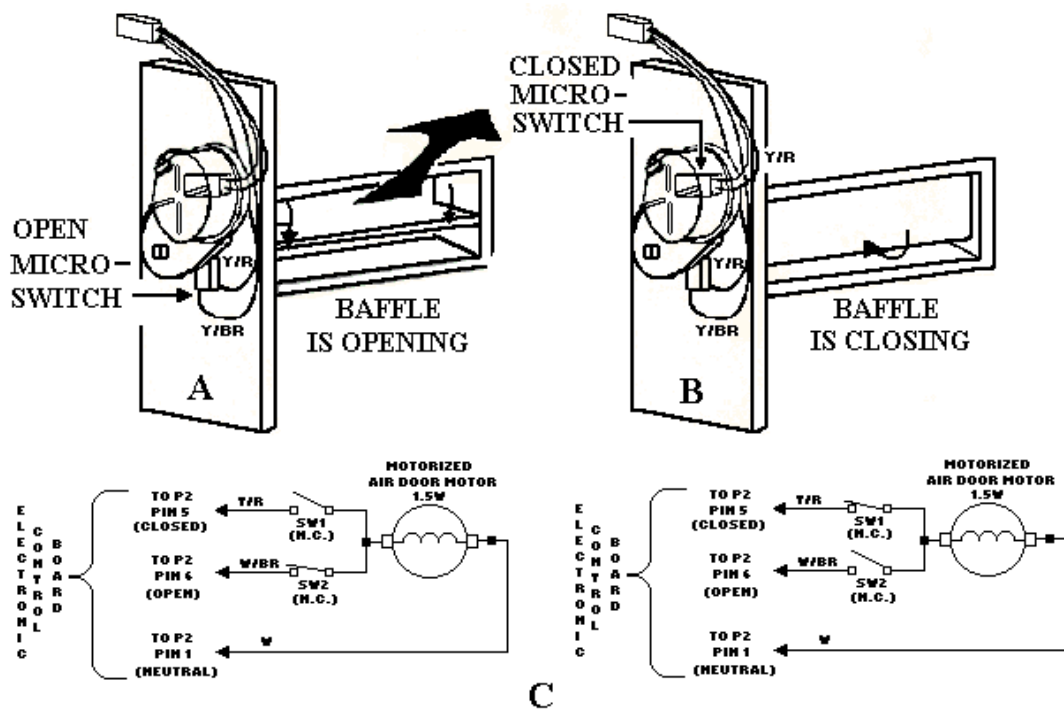

FIG. 31
1. To open the baffle: 120 volts AC is supplied to the baffle motor through the Y/R wire and switch SW1 (Fig.31-C). The motor rotates 270* from the “closed” position (Fig.31-A) to the “open” position where it contacts SW1 which opens and parks the motor.
2. To close the baffle: 120 volts AC is supplied to the baffle motor through the W/BR wire and Switch SW2 (Fig.31-C). The motor rotates 90* from the “open” position (Fig.31-B) to the “closed” position where it contacts SW2 which opens and parks the motor.